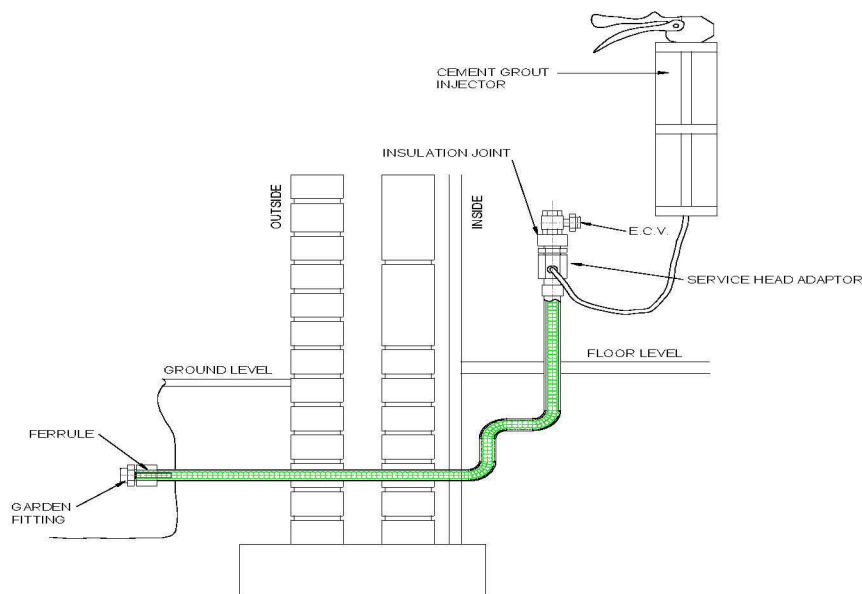

Figure B7 - Sealing of annulus with grout
1. Ensure the correct grout is used, mix the grout and attach to Service Head Adaptor (SHA) or as per manufacturer's manual (Figure B7 and Table B7).